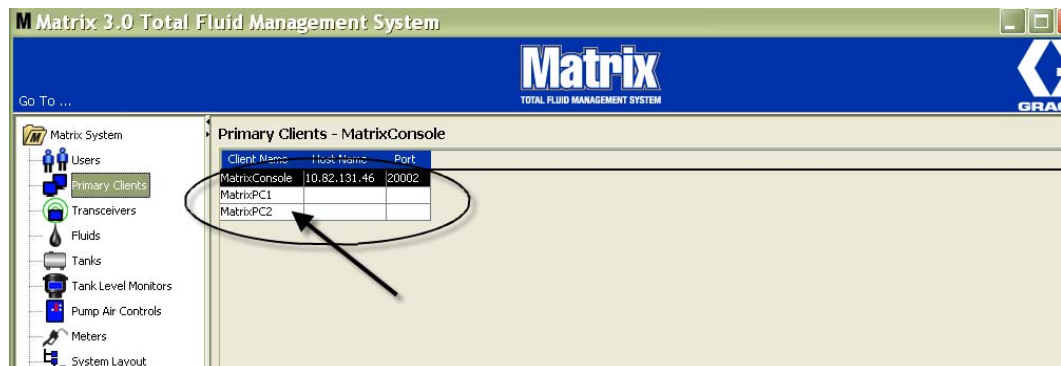

FIG. 96
- The new Primary Client is added to the bottom of the list on the Primary Clients screen (FIG. 96). Note that after entering a new Primary Client name, the name appears with its host name and port fields blank. These fields will be populated automatically the next time the Primary Client connects with the Matrix Service Engine.